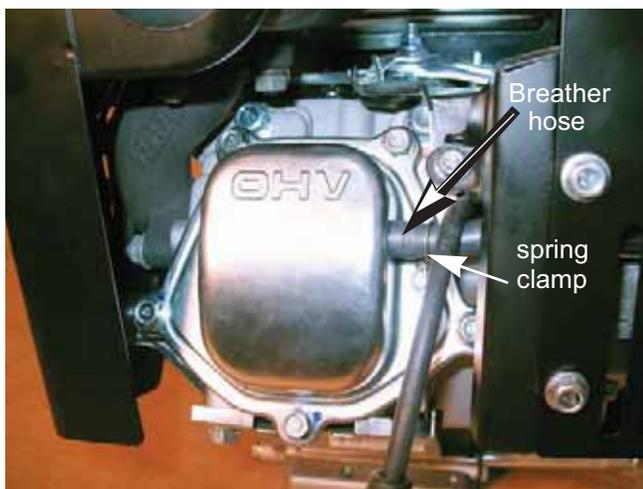

Figure 1.12
4. Disconnect the breather hose from the valve cover. See Figure 1.12.